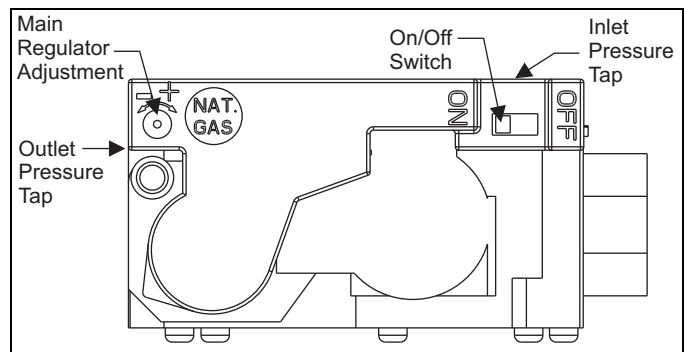

FIGURE 44: Gas Valve
Inlet and manifold gas pressure may be measured by connecting the "U" tube manometer to the gas valve with a piece of tubing. Follow the appropriate section in the instructions below. Refer to Figure 44 for a drawing of the locations of the pressure ports on the gas valve.
4. Refer to Figure 44 for location of pressure regulator adjustment cap and adjustment screws on main gas valve.